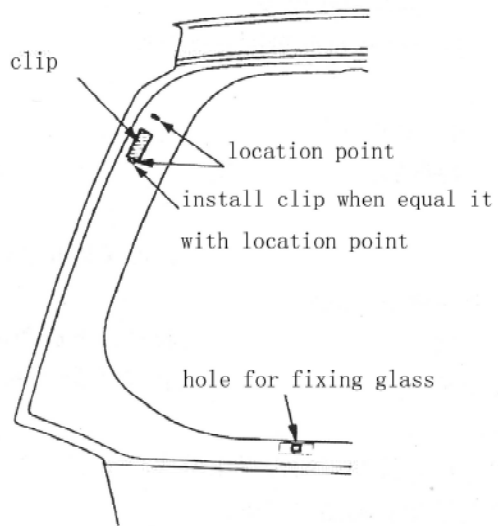

Fig.18-50
- ③ Position of fastener on the tailgate located of the mark, see Fig.18-50.